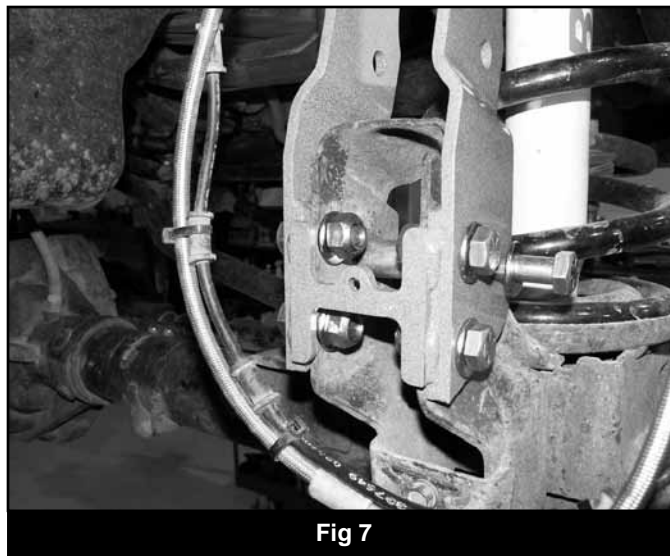

Fig 7
29. With all of the holes drilled, reattach the bracket to the axle and install the 9/16" x 5" bolt with 9/16" SAE washers and nut (bolt pack #614) in conjunction with the provided 7/8" x 2-3/8" spacer sleeve (72-1) placed in the OE upper control arm mount location. (Fig. 7) Leave hardware loose.